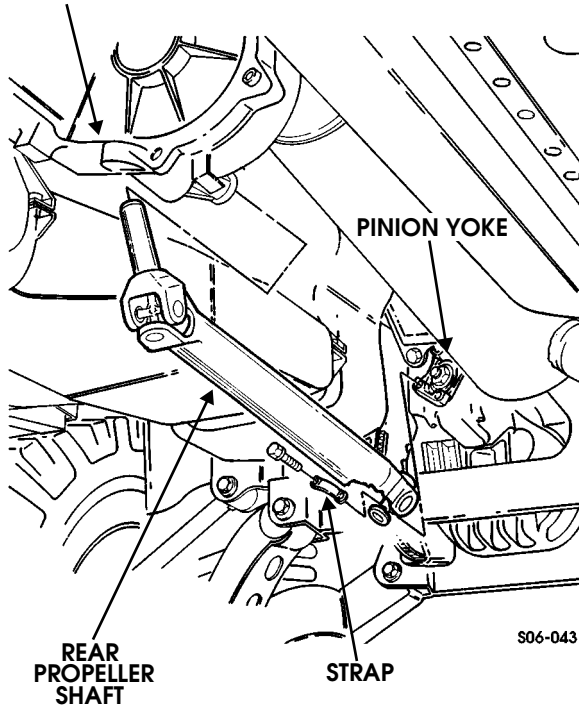

Figure 9-55: Rear Propeller Shaft Removal
3. Remove four bolts, two straps, and rear propeller shaft from pinion yoke (Figure 9-55).
9. Install rear propeller shaft in transfer case (Figure 9-55).
10. Secure rear propeller shaft to pinion yoke with four bolts and two straps. Tighten bolts to 60 lb-ft (81 N•m) (Figure 9-55).